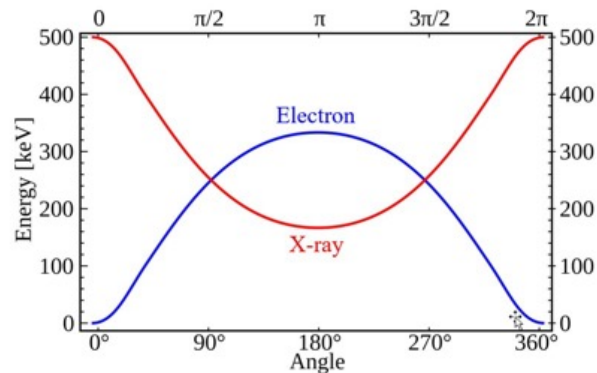

FIGURE 10
- / The average scattering angle decreases as the X-ray energy increases (Fig. 10).